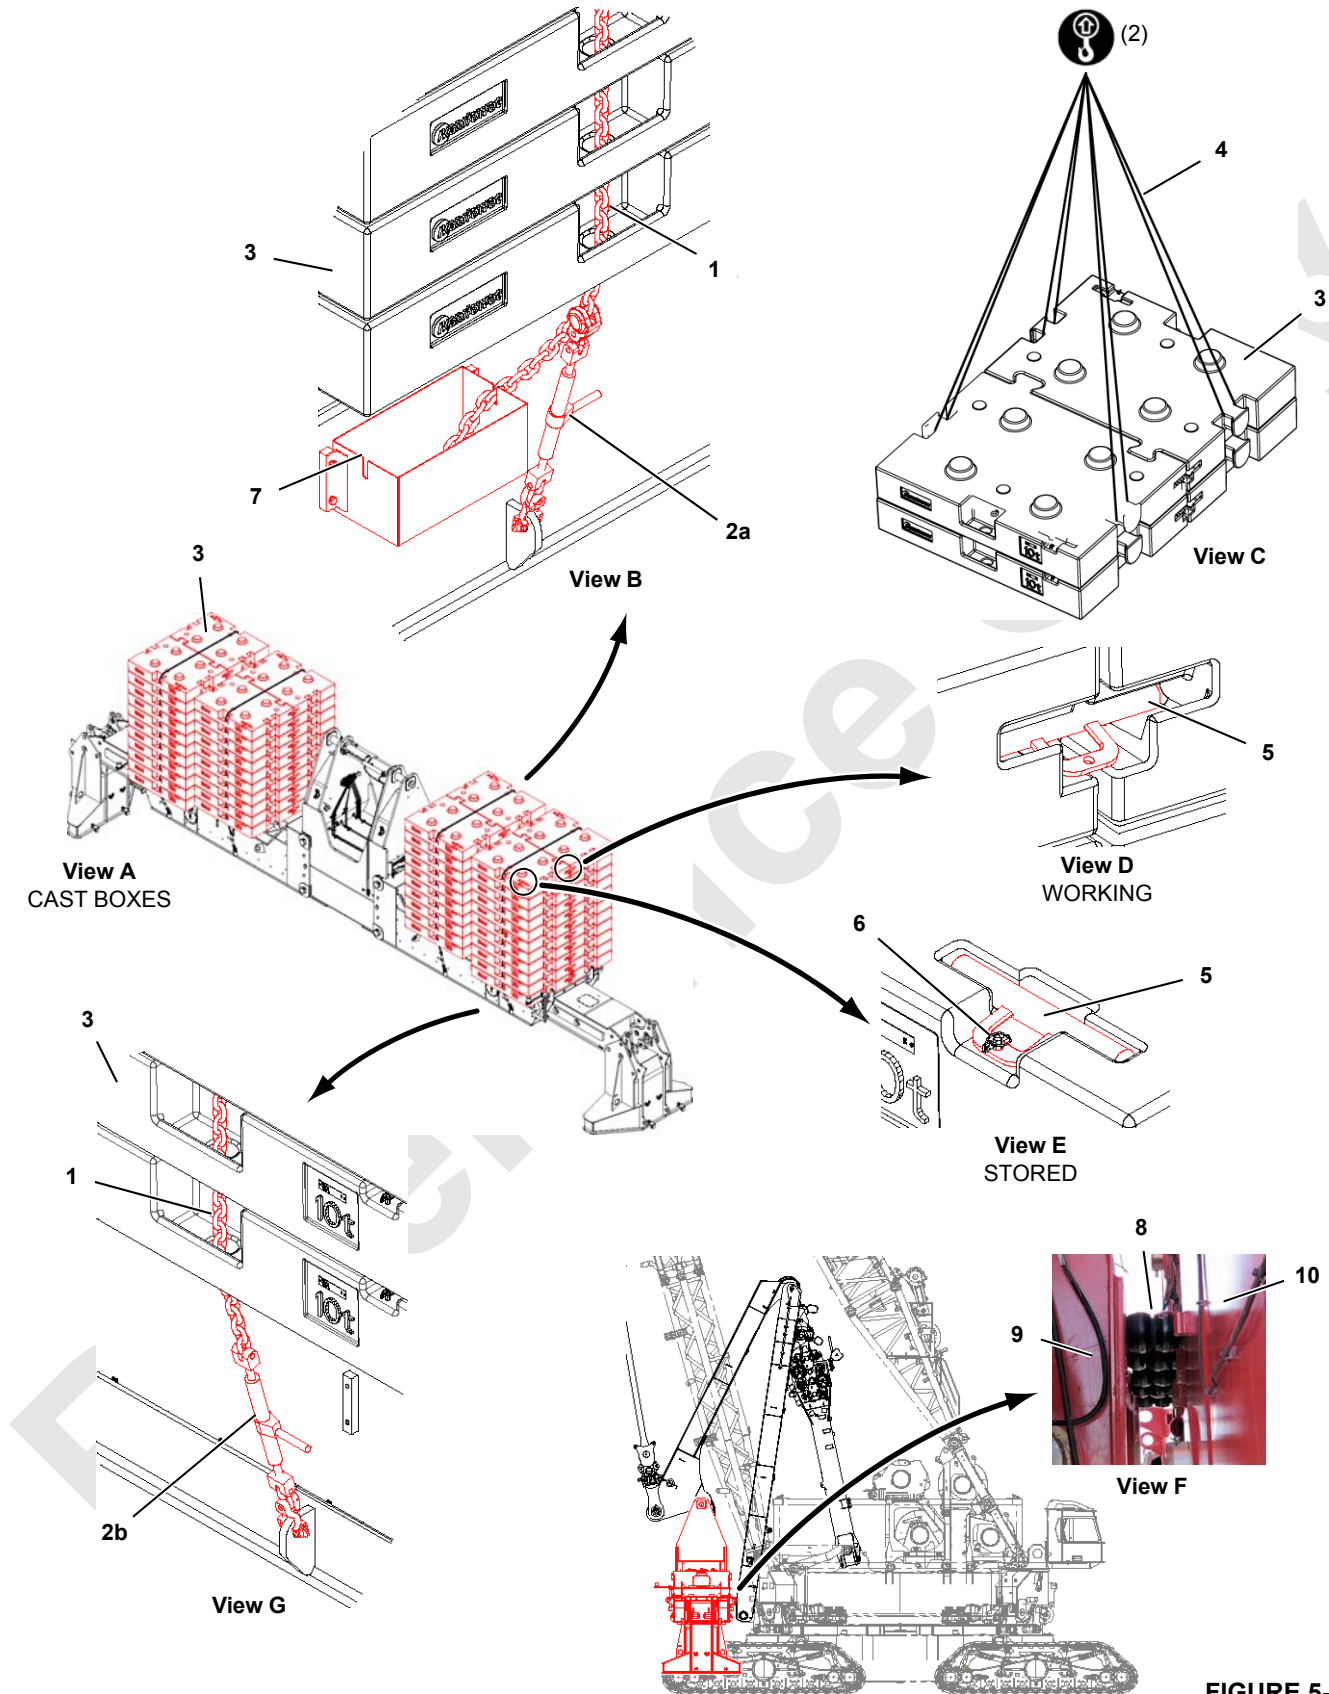

FIGURE 5-61
Legend for Figure 5-61
- VPC actuator must remain fully retracted until all counterweight boxes are removed. VPC actuator must remain fully retracted until all counterweight boxes are removed. Rubber bumpers (8, Figure 5-61, View F) on center tray (9) must be snug against pivot frame (10) on rear of crane.
- Do not lift more than four cast boxes (3, Figure 5-61, View C) at a time. Lifting lugs may break allowing box(es) to fall.
See Figure 5-61 for the following steps.